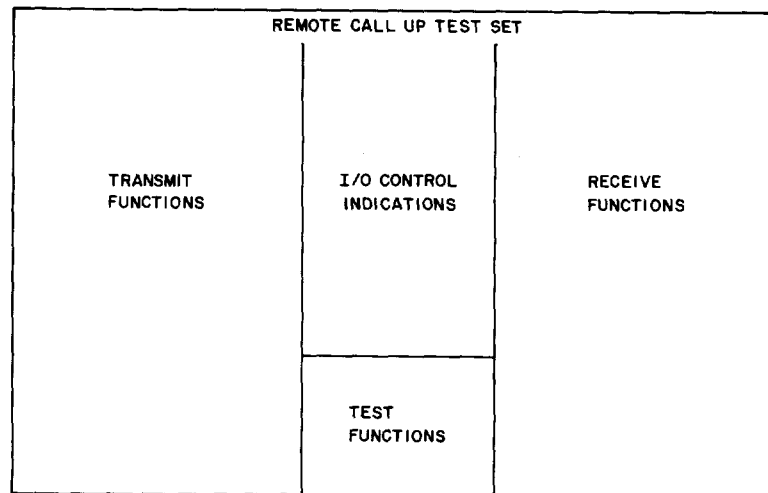

Fig. 2—Location of Controls and Indicators for the RCU Test Set
3.03 The front panel of the RCU test set is divided into four sections (Fig. 2); they are the transmit, I/O control Indications, receive, and